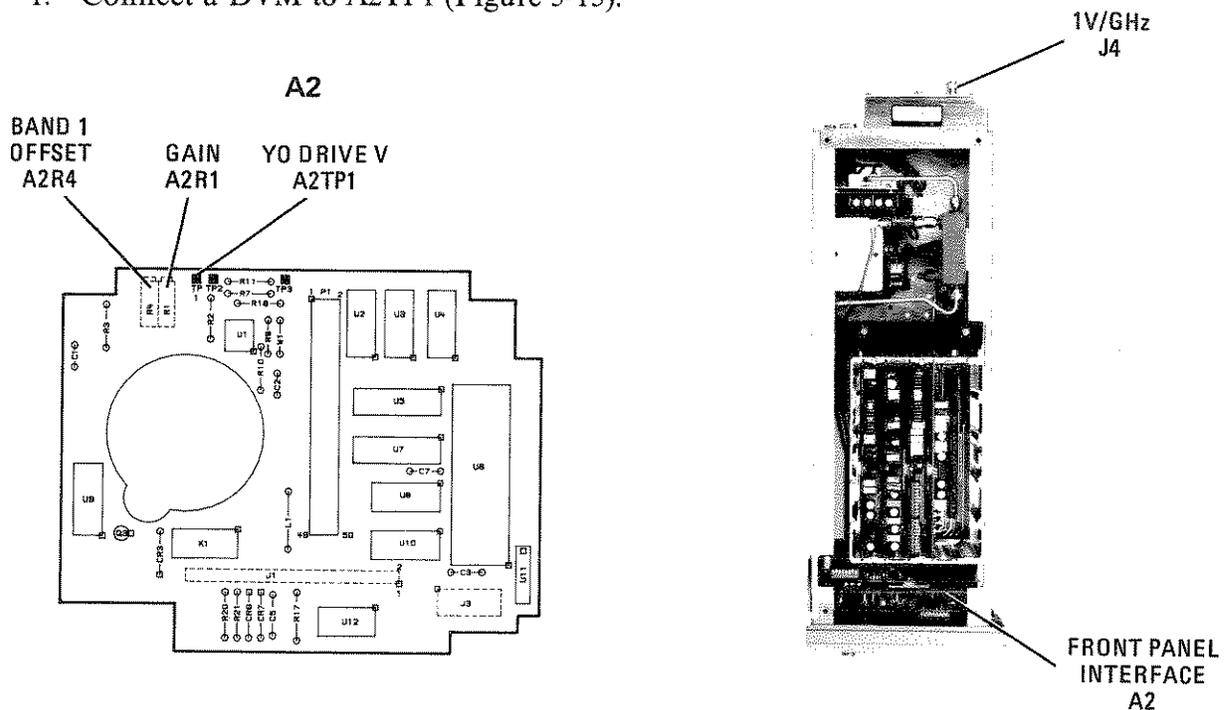

Figure 5-15. Frequency Reference Adjustments Location
1. Connect a DVM to A2TP1 (Figure 5-15).
4. Adjust A2R4 "OFFSET" (Figure 5-15) for the voltage that corresponds to the CW frequency (example: 6.4 GHz = +6.4 Vdc).